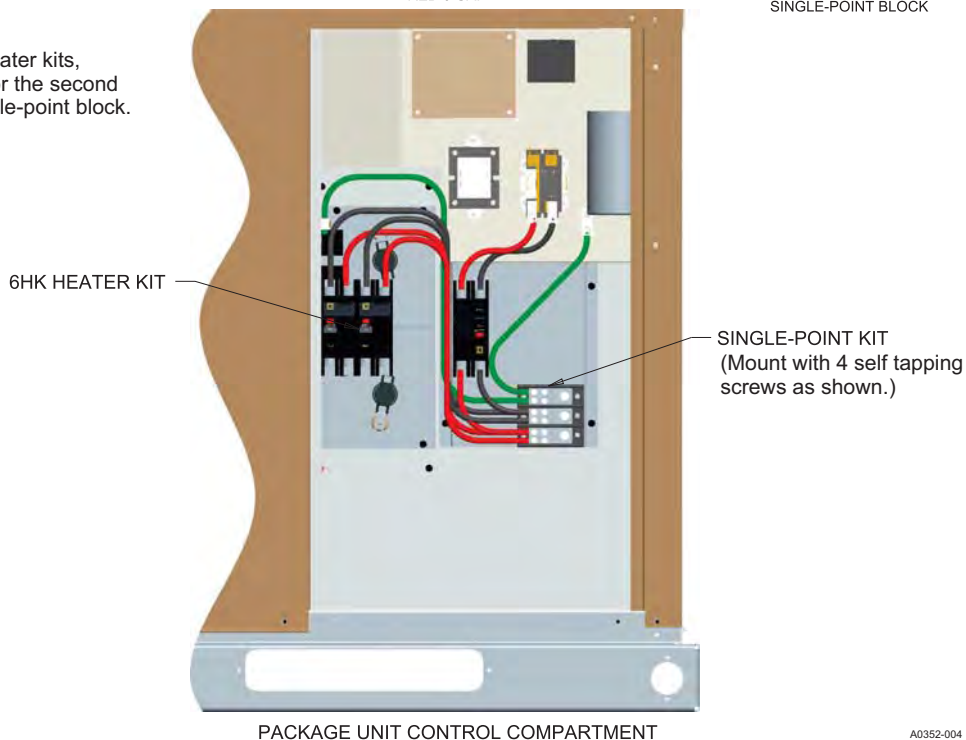

FIGURE 1: Electrical Wiring and Location Diagram
4. Connect wiring as shown in Figure 1.